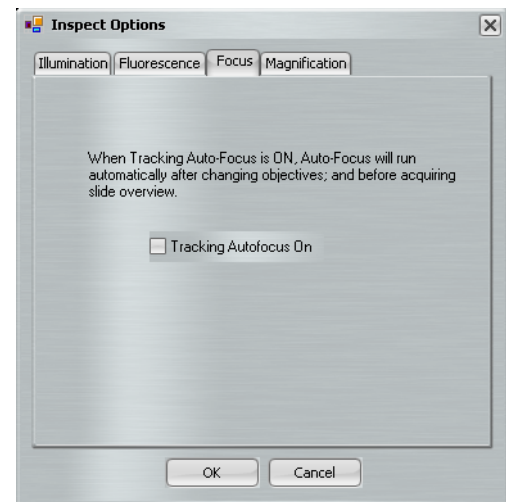

Figure 25 Autofocus
2. Click the **Focus** tab (see Figure 25).